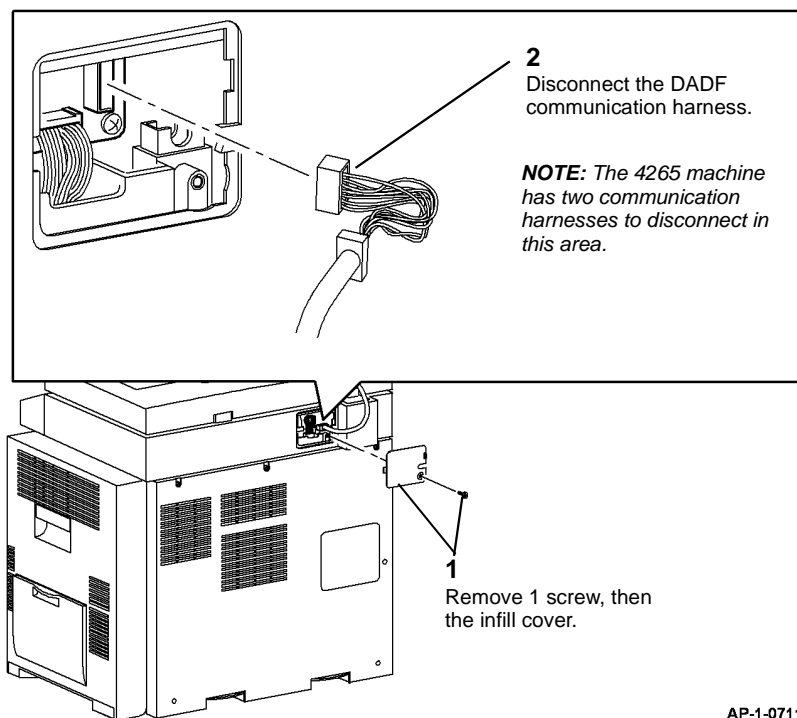

Figure 1 DADF Communication Harness
3. Disconnect the DADF communication harness, Figure 1.